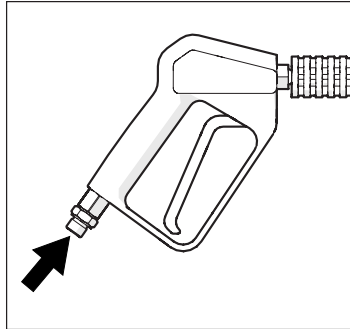

Fig. 24: Connection for the material hose
1. Connect the material hose to the material inlet of the high pressure cleaner gun (Fig. 24).